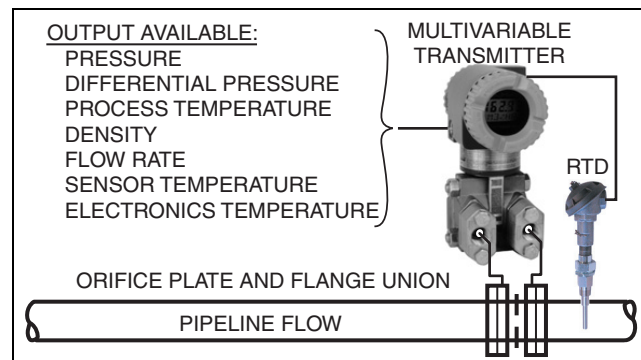

Figure 1. Flow Rate Measurement with Orifice Plate
- Can be used with primary flow devices such as orifice plates (see Figure 1), flow nozzles, Venturi tubes, and averaging pitot elements